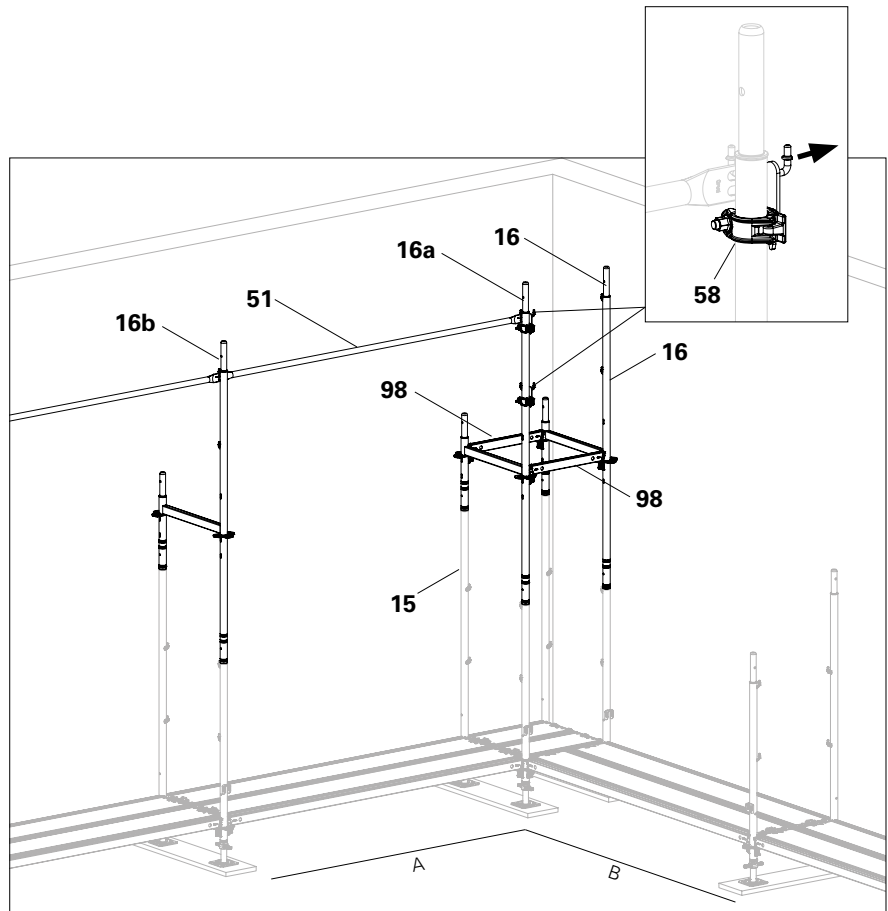

Fig. B6.08
1. Position the Easy Frame EVF (16) on the Base Frame EVB (15) in the corner.
2. Pre-assemble two Guardrail Couplings EPR (58) on the outer tube of the second Easy Frame EVF (16a).
4. Connect the Easy Frame EVF to the Horizontal Ledger UH-2 67 (98). Secure the wedges.
5. Attach Guardrail Post EPG (51) for the first scaffold bay (A) to the guardrail pin of the Easy frame (16a) from the level immediately below.
6. Fit the other side of the Guardrail Post EPG onto the Easy Frame EVF (16b), and then place in position. (Fig. B6.08)